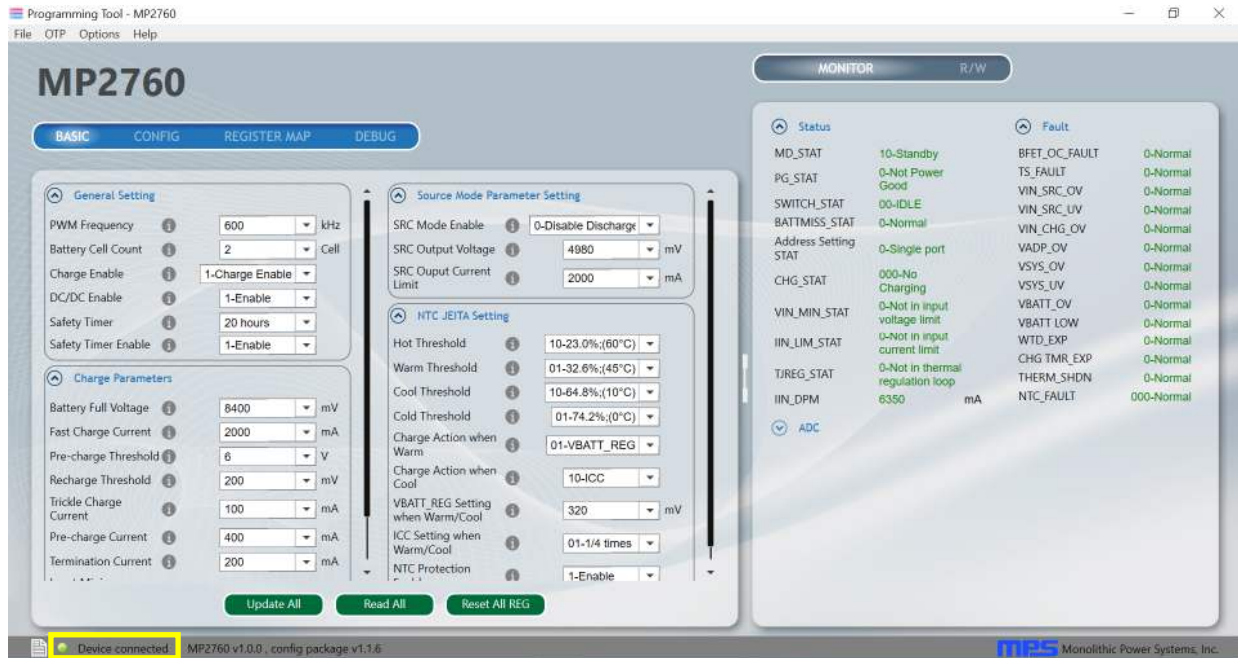

Figure 3: MP2760 Evaluation Software
8. Launch the MP2760 evaluation software (see Figure 3).